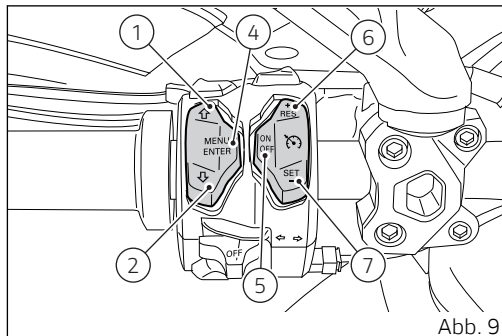

Abb. 9
6) CRUISE CONTROL-TASTE – RES (Resume) / + (more) (Abb. 9)
7) CRUISE CONTROL-TASTE – SET (Setup) / - (less) (Abb. 9)